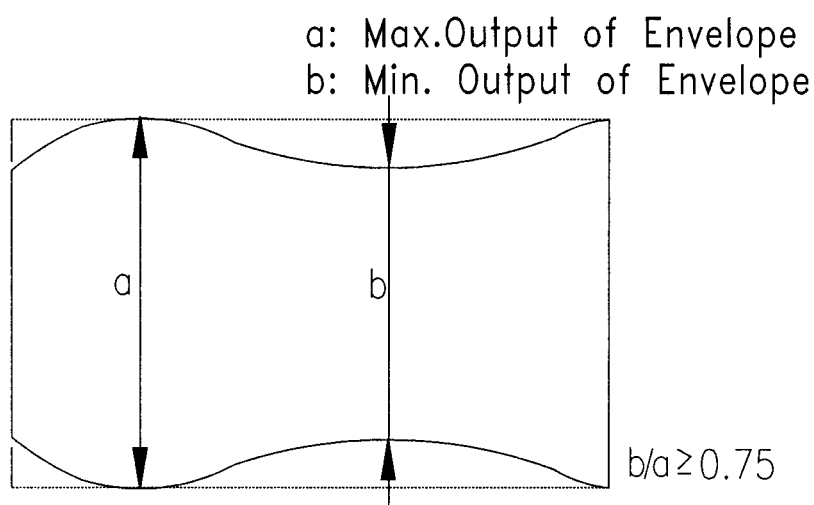

Fig. 5-7 LINEARITY ADJUSTMENT
- Adjust the S/T GUIDE ROLLER until the envelope signal waveforms of the entrance and exit sides are as shown in Fig. 5-7.